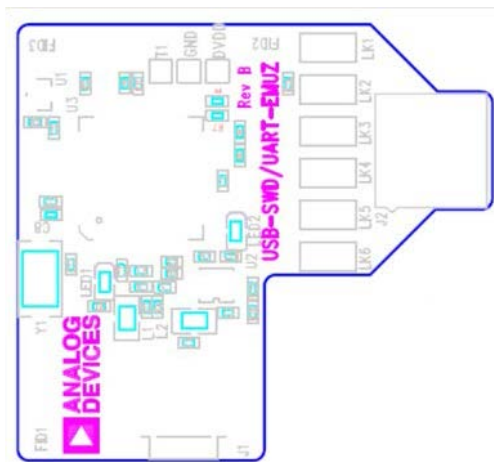
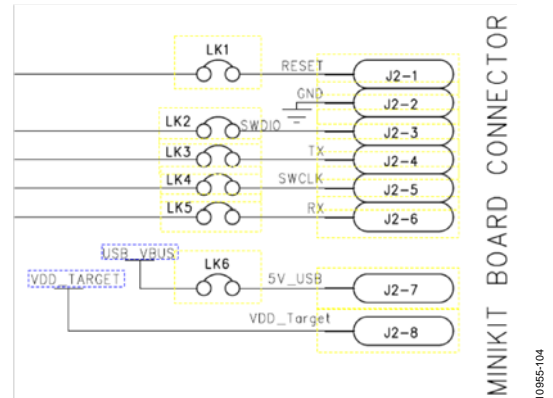

Figure 4. Analog Devices J-Link OB Emulator Top View
Figure 5. J2 Connector
- Figure 4 shows a top view of the emulator board. J2 connector plugs into the EVAL-CN0300-EB1Z board. The J2 connector pinout is shown in Figure 5